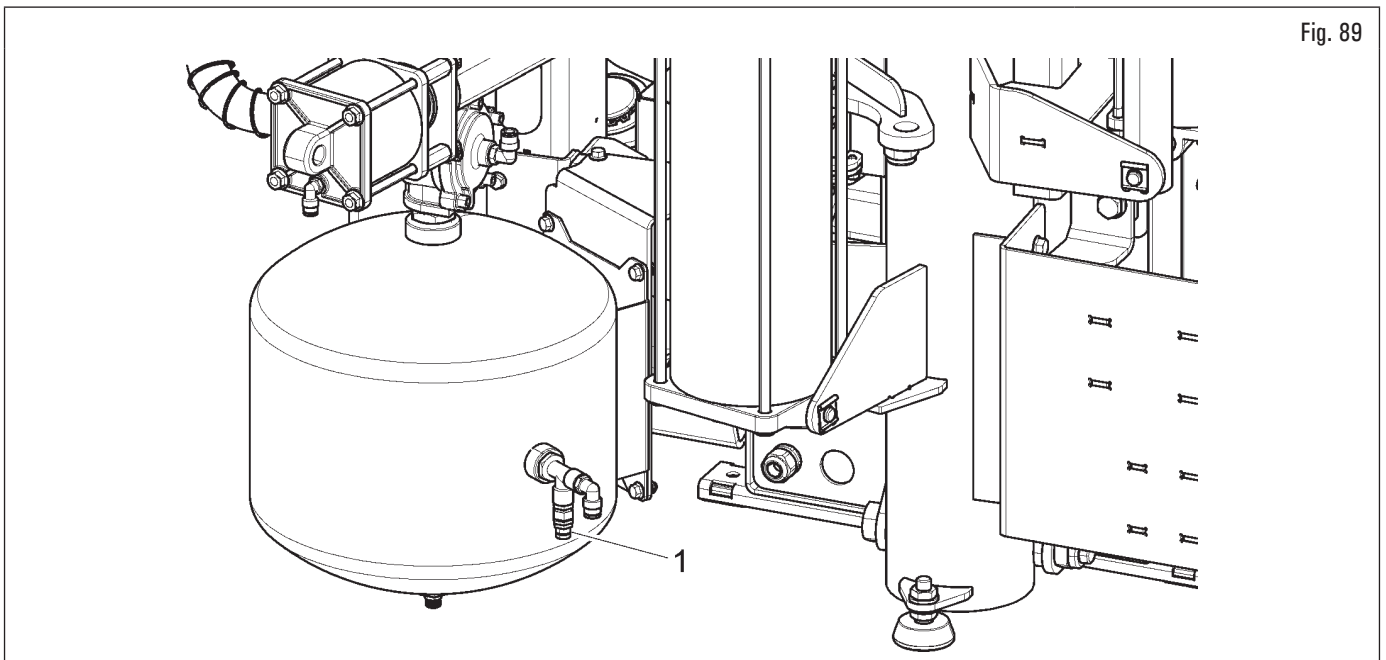

Fig. 89
The safety valve (Fig. 89 ref. 1) avoids that the inflation tank is under a pressure above 12 bar (174 psi).